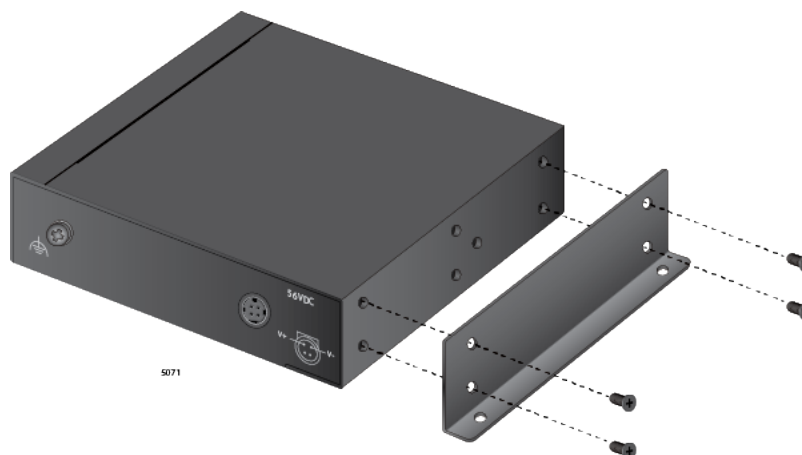

Figure 8. Aligning the Bracket to the PoE Injector
4. Align the bracket to the PoE injector as shown in Figure 8.
6. Install the PoE injector unit on the wall with two screws as shown in Figure 8.
The cable tie has two sides. One side has a few teeth at the pointy edge and the other side has teeth from the edge to edge. For the orientation in Figure 8, the side with a few teeth must be up and visible.